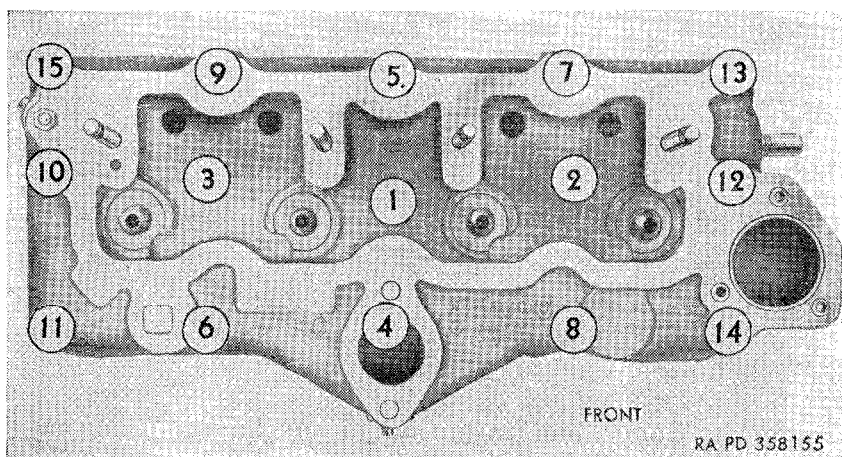

Figure 48. Cylinder head screw tightening sequence.
- (8) Install the remaining eight $\frac{7}{16}$ -inch flat washers and $\frac{7}{16} \times 4\frac{1}{4}$ screws (B).
- (9) Tighten all the screws to a torque of 60–65 foot-pounds in the sequence shown in figure 48.
- (10) Install the four push rods (H) by inserting them through the holes in the left side of the cylinder head.
- (11) Aline the holes in the rocker arm shaft brackets (E) with the studs mounted in the cylinder head and position the brackets, rocker arms, rocker arm shaft, and springs as a unit on top of the cylinder head. Make certain push rods are properly positioned in rocker arm sockets. Secure the brackets to the studs by installing the four $\frac{3}{8}$ -inch lock nuts (D) on the studs. Tighten nuts to a torque of 30–36 foot-pounds.
(12) Unscrew the studs (C) from the tops of the rocker arm shaft brackets (E) at the front and rear of the shaft assembly. Turn the studs over and screw the short ends of the studs into the brackets.
(13) Install the carburetor assembly (S) (par. 134c).
(14) Secure the oil filler pipe support bracket to the right side of the cylinder head with a $\frac{5}{16} \times 1\frac{1}{4}$ lockwasher bolt.